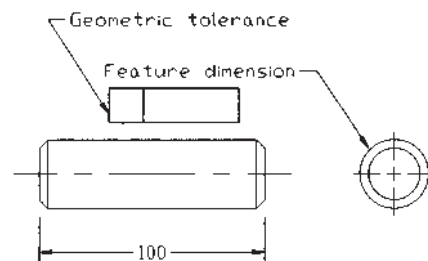

Figure P8-32
- Given the shaft shown in Figure P8-32, what is the minimum hole diameter that will always accept the shaft?